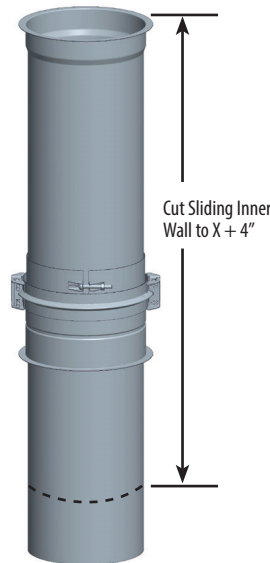

Figure 14 - Step 2 -
Step 2 - Cut the inner wall at the dimension X found at the first Step plus 4". See Figure 14.